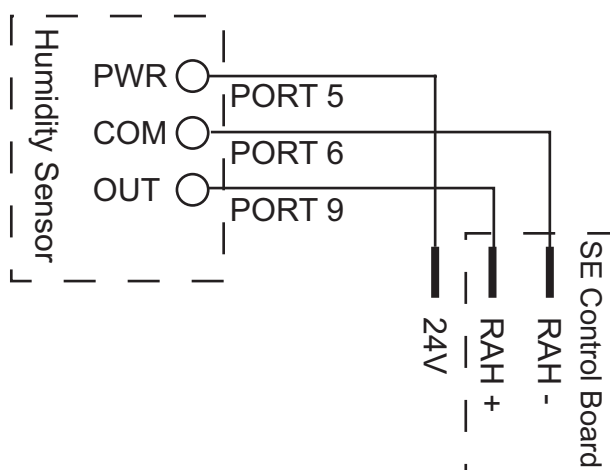

FIGURE 3 - WIRING FOR RETURN AIR HUMIDITY
7. Locate the 3 wires (R,W,B) in the Return section of the unit. See Figure 3.